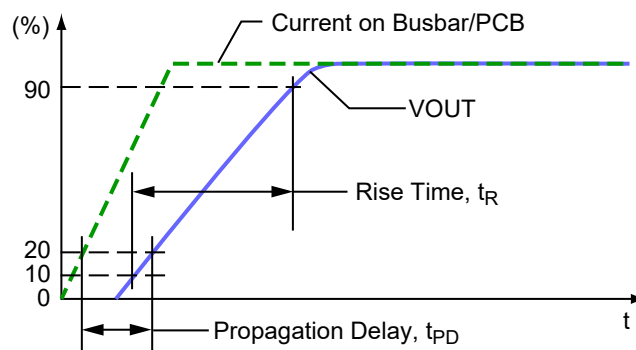

Figure 40: Propagation Delay ( $t_{PD}$ ) and Rise Time ( $t_r$ )
**Rise Time ( $t_r$ ).** The time interval between a) when the sensor reaches 10% of its full-scale value, and b) when it reaches 90% of its full-scale value, as shown in Figure 40.
**Propagation Delay ( $t_{PD}$ ).** The time interval between a) when the sensed current reaches 20% of its full-scale value, and b) when the sensor output reaches 20% of its full-scale value, as shown in Figure 40.